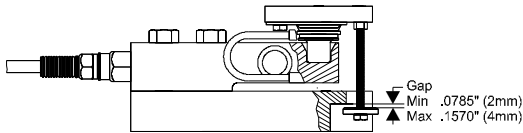

FIG. 13: ANTI-LIFT OFF DEVICE ADJUSTMENT
DO NOT ALLOW GROUT TO COME IN CONTACT WITH THE ANTI-LIFT OFF DEVICE. (SEE FIG. 13)
- Step 1. Use a box end wrench to loosen the adjustment hex nut that fastens the Anti-Lift Off Device to the top plate. (See Fig. 13)
- Step 2. Use a box end wrench or your fingers to adjust the hex screw until the gap between the base plate and the washer are between .0785" (2mm) and .1570" (4mm). (See Fig. 13)